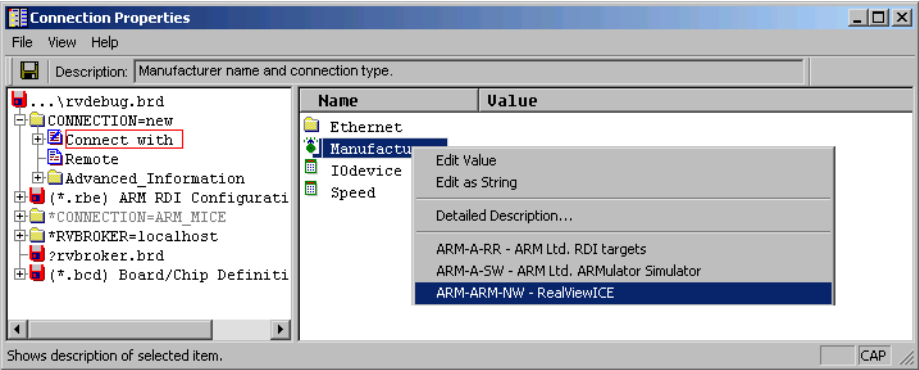

Figure B-6 Setting how to connect
7. Right-click on the Manufacturer setting, and choose **ARM-ARM-NW - RealViewICE** from the context menu that appears, as shown in Figure B-6 on page B-7.